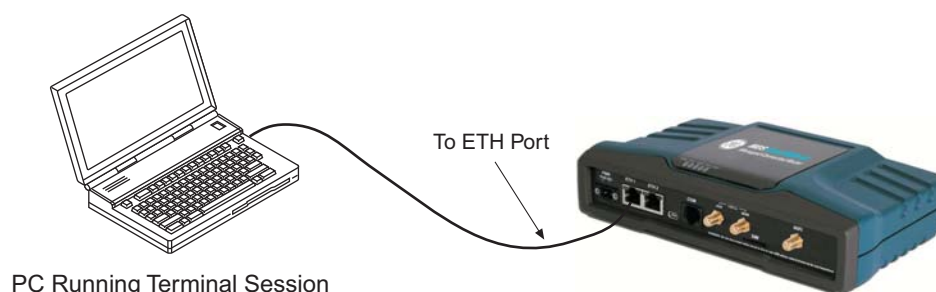

**Figure 26. PC Connection for Web Management**
- An Ethernet cable connected between the PC and the MCR as shown in Figure 26.